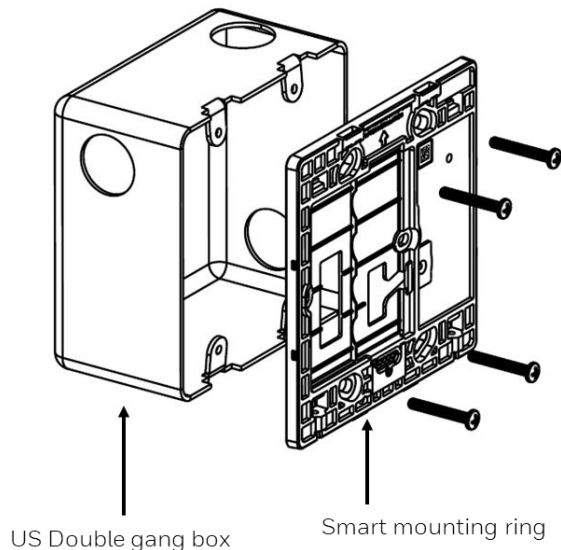

Figure 3. e7w exploded assembly reference
2. Attach the plate to the junction box using the supplied screws as shown in Figure 3.